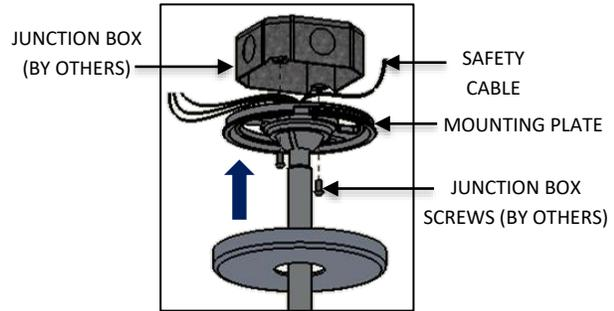

FIG. 17 – MOUNTING PLATE INSTALLATION TO JUNCTION BOX
- Mount the assembly to the JUNCTION BOX (by others) as shown below in FIG. 17. If the fixture has a SAFETY CABLE, attach this to a structural member.